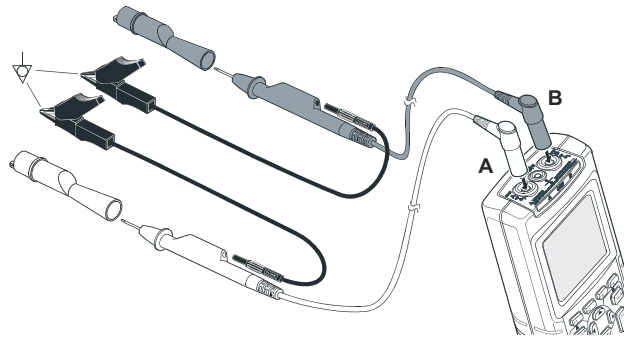
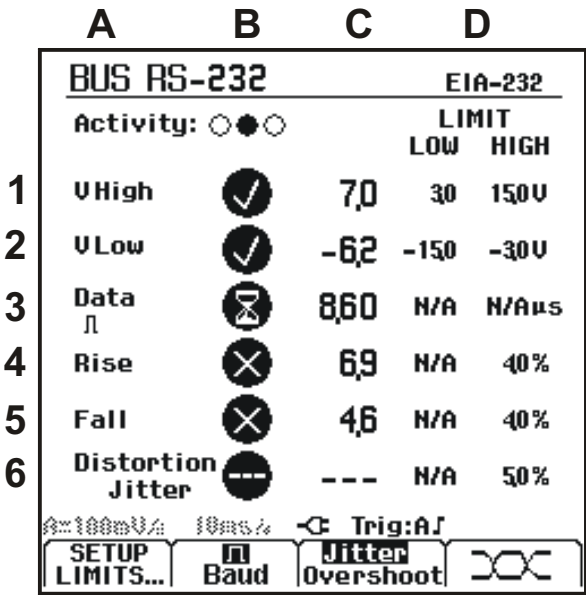

Figure 4-1. Fieldbus Measurement Input Connections
Figure 4-2. Field Bus Test Screen Example
①  Open the application mode menu.
②  Highlight BUSHEALTH.
③  Open the bus selection menu:
- ④  Select the bus type.
- ⑤  Accept your choice.
- You will see a screen like fig 4.2.
- ⑥  Select the appropriate input A and input B test leads or probe type.
- ⑦ Connect the inputs as indicated in figure 4-1.
The bus test screen (see the example in figure 4-2) shows the status of the various signal properties.